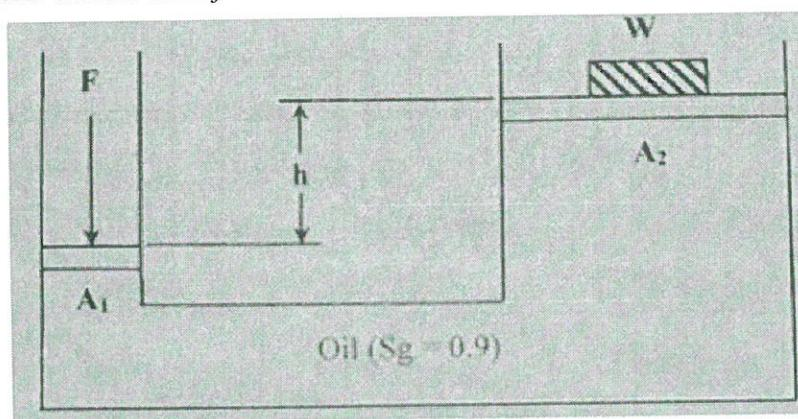

Figure Q3/Rajah S3
- CLO1 A hydraulic jack lifts a load of 16.3 kN with force of 1320 N applied to small cylinder as shown in Figure Q3. The area of the large cylinder is 91 cm². Express :